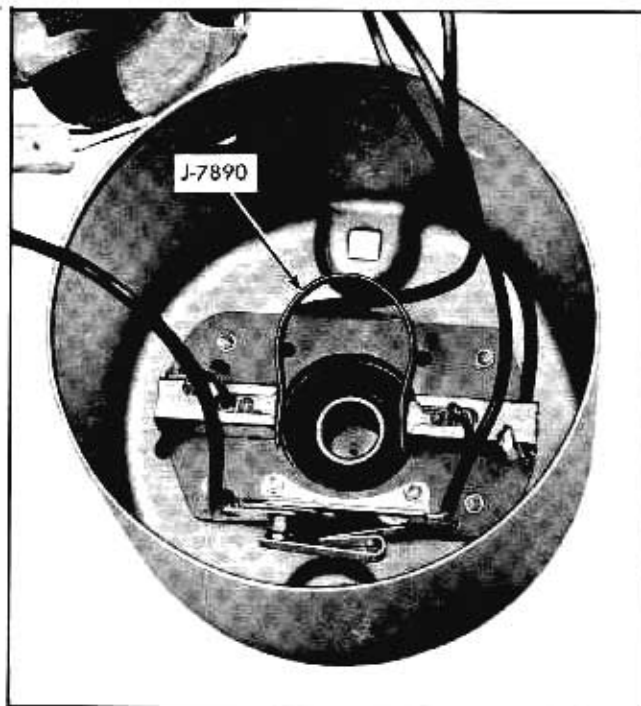
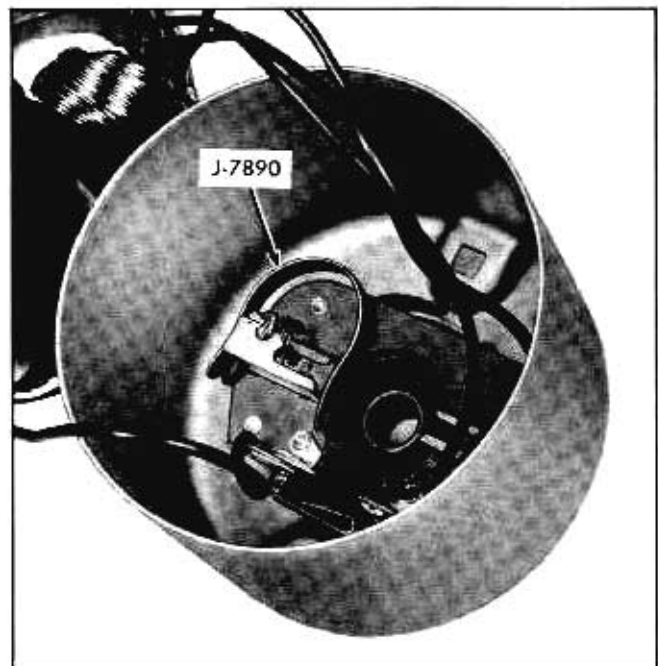

Fig. 11-78 Retainer Holding Brushes in Place
Fig. 11-83 Holding Brush in Place
4. Hold the brushes and brush springs in position as shown in Figure 11-78.
4. Insert brush in brush guide and retain with clip (Fig. 11-83). Then insert other brush in guide and retain as shown in Fig. 11-78.